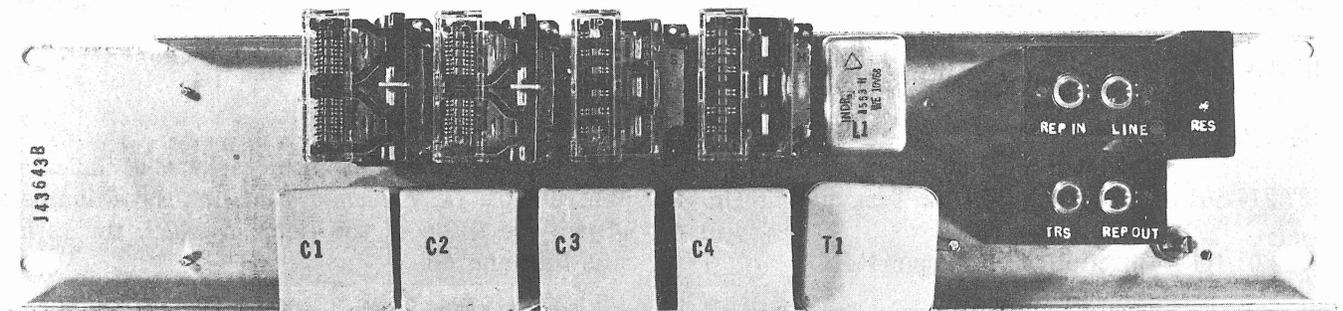
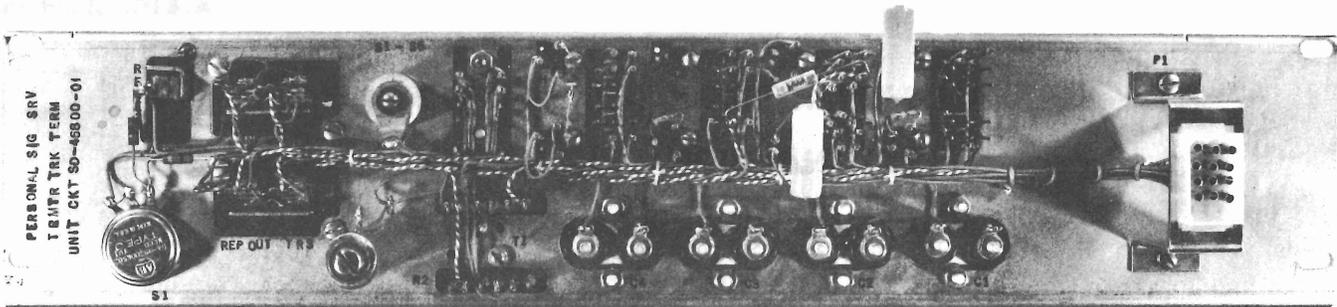

Fig. 1—Panel (Front)
Fig. 2—Panel (Back)
1.04 The trunk terminating unit is a 4-inch high, 19-inch long panel (Fig. 1 Front, Fig. 2 Back) mounted in each BELLBOY transmitter cabinet.